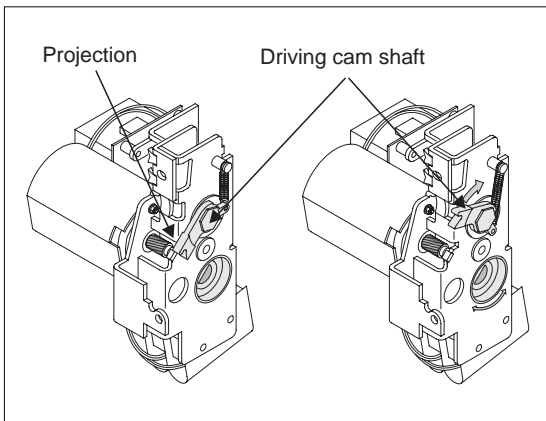

Fig. 4-20:
- ② Make sure that the driving cam shaft is latched to the projection of the motor frame (fig. 4-20). If not so, turn the gear to latch the driving cam shaft with the projection.